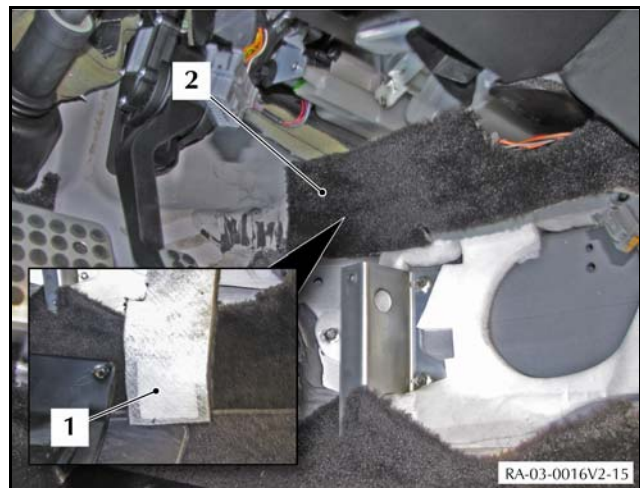

Figure 14
- 31. Use a piece of double-sided adhesive carpet tape approximately 50 mm square (1) to attach the loose end of the carpet to the tunnel (2) (refer to Figure 14).